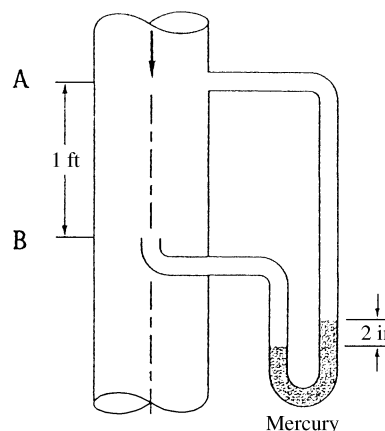

Fig. P6.137
6.137 For the 20°C water flow of Fig. P6.137, use the pitot-static arrangement to estimate (a) the centerline velocity and (b) the volume flow in the 5-in-diameter smooth pipe. (c) What error in flow rate is caused by neglecting the 1-ft elevation difference?